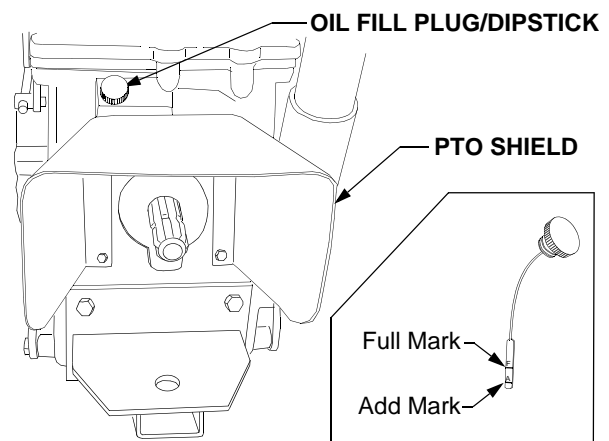

Figure 44
The oil fill plug/dipstick is located at the rear of the tractor, above the rear PTO shield. See Figure 44.
- Clean the area around the oil fill plug/dipstick to prevent debris from entering the transmission housing. See Figure 44.
- Withdraw the dipstick and wipe it clean, then reinsert and screw in all the way. Unscrew and withdraw again to read the oil level. Always keep the oil level between the add and full marks on the dipstick (See Figure 44).
- Clean the area around the transmission drain plug and the oil fill plug/dipstick to prevent debris from entering the transmission. Refer to Figure 44 and Figure 45.
- Clean the area around the transmission oil fill plug/dipstick to prevent debris from entering the transmission (Refer to Figure 44) and remove the plug.